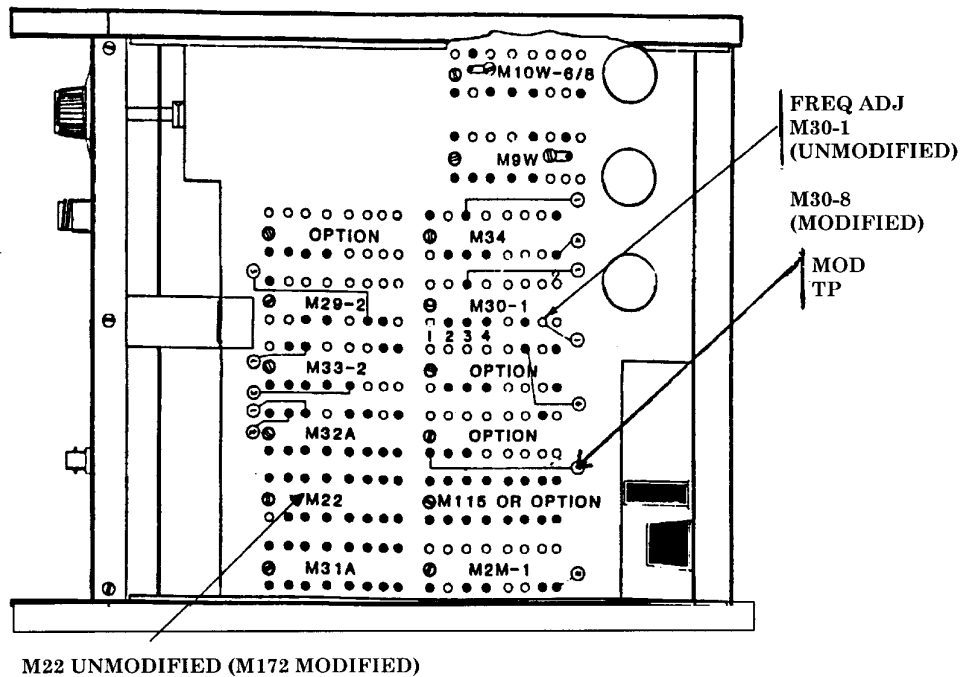

Figure 1. Test instrument - bottom view.
(1) Position controls as listed in (a) through (d) below:
(2) Set **FREQUENCY** switches to indicate **500.000 MHz.**
(3) Adjust **FREQ ADJ M30-1** (fig. 1) trimmer ccw for minimum frequency indication on frequency counter, then adjust trimmer cw until frequency counter indicates 500.000 MHz (R).
- (5) Connect digital multimeter to MOD TP (fig. 1) and ground.
(7) Set **MODULATION FM/AM** slide control to **0**. The digital multimeter should indicate $0\text{ V} \pm 20\text{ mV}$ dc.
(8) Disconnect the digital multimeter from MOD TP (fig. 1) and ground.